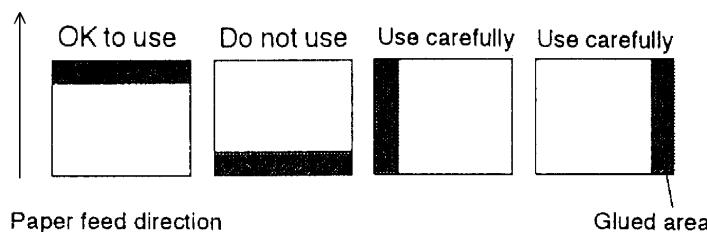

Figure 1-4. Slip Paper Glued Area
- There must be no glue on the bottom edge of slip paper. It is desirable for the glue to be on the top edge. Choose slip paper carefully when the glue is on the right or left edge, since paper feeding and insertion are affected by gluing conditions (e.g., glue quality, method, and length) and glue location (see Figure 1-4). Be especially careful when slip paper is wide and has the glue on the right or left edge, since meandering may occur.